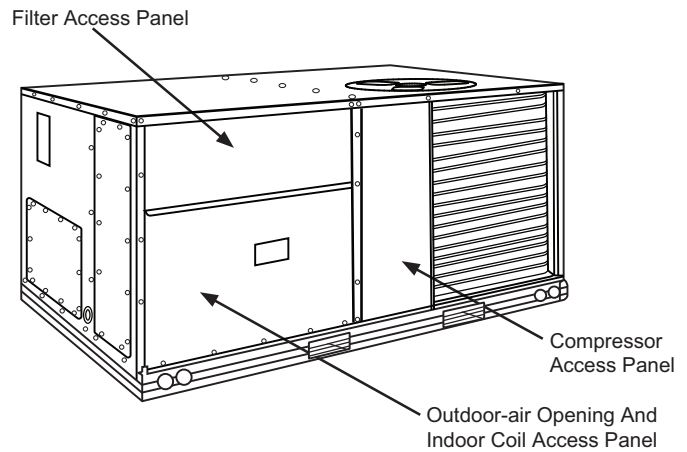

Fig. 2 — Typical Access Panel Locations
2. Remove the existing unit filter access panel. Raise the panel and swing the bottom outward. The panel is now disengaged from the track and can be removed. (See Fig. 2 and 3.) Set the filter door aside for re-installation later.
3. Remove the indoor coil access panel and discard. (See Fig. 2.)